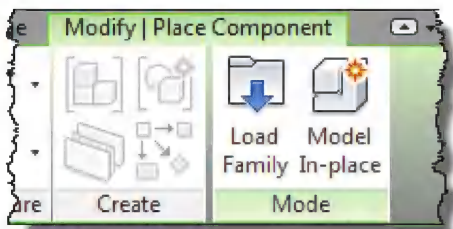

FIGURE 7-3.1 Component tool active; Ribbon
2. Select **Load Family** on the *Ribbon* (Figure 7-3.1).